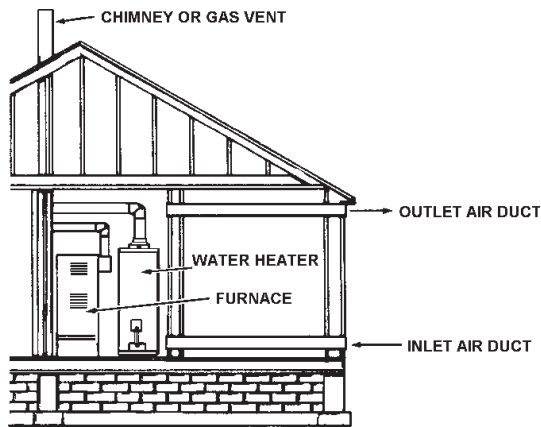

FIGURE 14.
- When communicating with the outdoors through horizontal ducts, each opening shall have a minimum free area of 1 square inch per 2,000 BTU per hour (11 cm²/kW) of total input rating of all equipment in the enclosure, see Figure 14.
- When ducts are used, they shall be of the same cross-sectional area as the free area of the openings to which they connect. The minimum short side dimension of rectangular air ducts shall not be less than 3 inches (76.2 mm), see Figure 14.